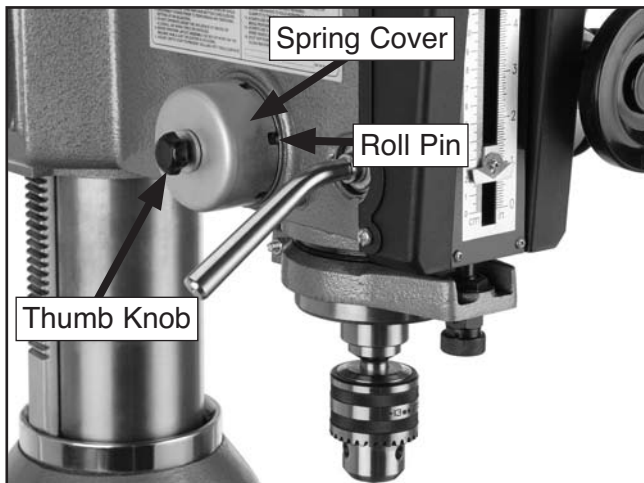

Figure 43. Spring cover.
1. Loosen black thumb knob two or three turns (Figure 43).